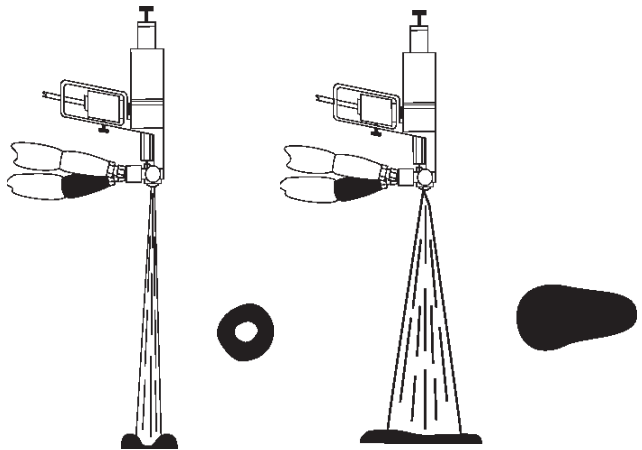

FIG. 12 Opening Spray Pattern
4. Adjust spray pattern. Note position of notch in hexhead of adjustment screw, then back screw out counterclockwise the number of turns specified in Table 1. Notice spray pattern opens as adjustment is made (FIG. 12).
- d. If pattern splits or has hollow center, even with the adjustment screw at minimum number of turns from point of valving, material temperature is too high. Refer to FIG. 12.